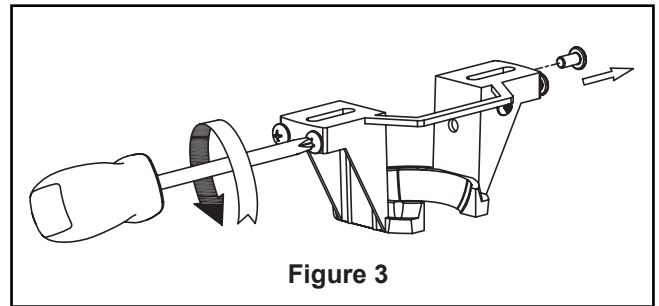

Figure 3
3. Route your fan wires and safety cable through the canopy trim ring and ceiling canopy. (Figure 3)
1. Completely remove one screw from either side of the hanger bracket--be sure it is the screw to your right when facing it--and keep for reinstallation on page 12 or 13 (**How to Install Your Canopy Housing**). Loosen the other two screws that were not removed. (Figure 3)